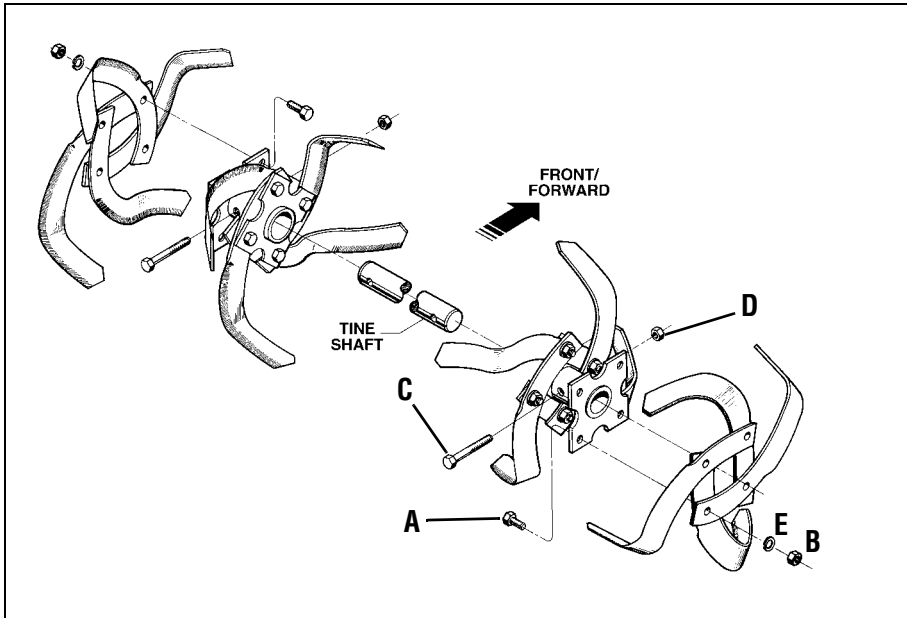

Figure 5-3: Install tines so that cutting edge of tines enter soil first when tiller moves forward.
1. With the engine shut off and the spark plug wire disconnected, remove the two screws (A, Figure 5-3), lockwashers (E) and nuts (B) that attach a single tine to a tine holder. If needed, use penetrating oil on the nuts.
2. If removing both tine assemblies, mark them “left” and “right” before removal. Remove the screw (C, Figure 5-3), lock washer (E) and locknut (D) that secure the tine assembly to the tine shaft. If necessary, use a rubber mallet to tap the tine assembly outward off the shaft.